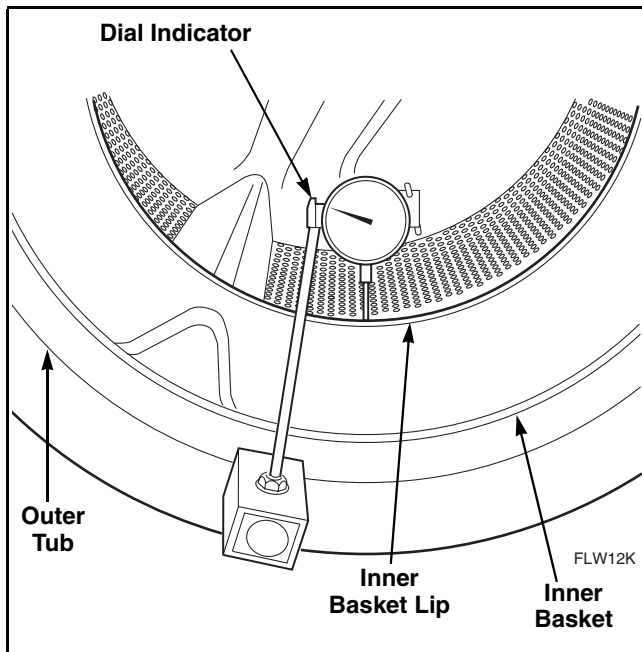

Figure 23
- i. Check for concentricity/roundness of assembly. Use a dial indicator to check that concentricity at the inside edge of inner basket lip is a maximum of .05 inch TIR (Total Indicator Runout). Refer to *Figure 23*. If concentricity is not within .05 inch, remove assembly from washer and adjust location of trunnion. Repeat until concentricity is within .05 inch.